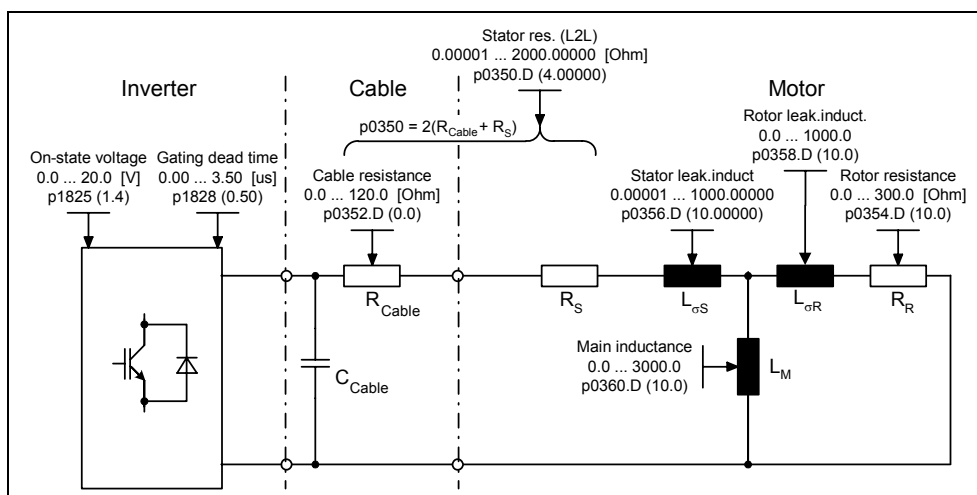

Fig. 6-15 Equivalent circuit diagram
- Equivalent circuit diagram data (refer to Fig. 6-15) → p1910 = 1